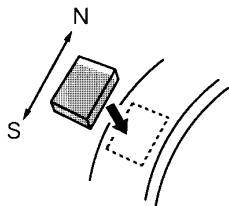

Figure 1
7. If there is any color distortion around the edges, correct it by attaching magnets to the outer edge of the deflection yoke. The magnets should be attached so that the line running from the position of the distortion to the center of the picture tube intersects the deflection yoke. The colors on the magnets indicate the north and south poles of the magnets. Attach the magnets in whichever direction causes the distortion to disappear. (See Figures 1 and 4. The south and north pole positions are shown as a guide.)